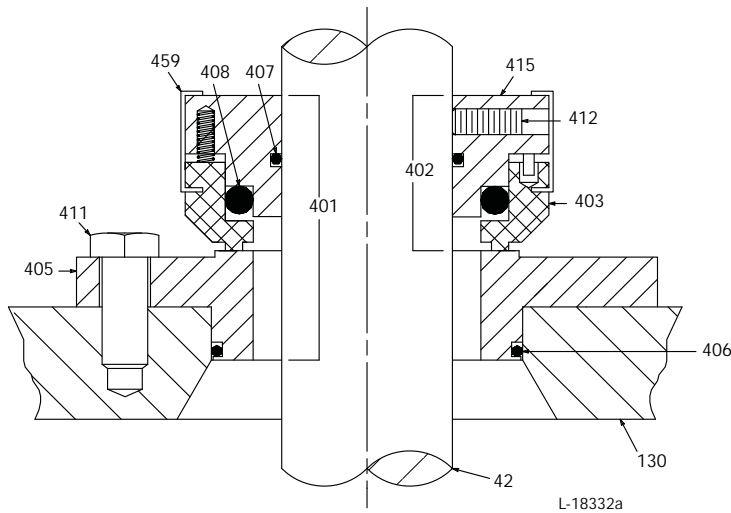

Figure 8 – Mechanical Seal
See Figure 8 on page 14, and also refer to the seal assembly drawing on page 46 for the type of seal furnished with this mixer.
- b. Install seal setting tabs (Figure 8, item 459), then loosen spring holder set screws (412).
- c. Refer to Sections 9 or 10 (pages 20 or 23) for impeller shaft (42) removal procedure.
- d. Slide the impeller shaft (42) down through the rotary seal head (402).
- e. CAREFULLY remove the rotary seal head assembly (402).
- f. If removal of the stationary seal face (405) becomes necessary, remove the four hex head cap screws (150) and remove the complete mixer/pedestal assembly. The stationary seal face (405) can then be removed by removing the four hex head cap screws (411).